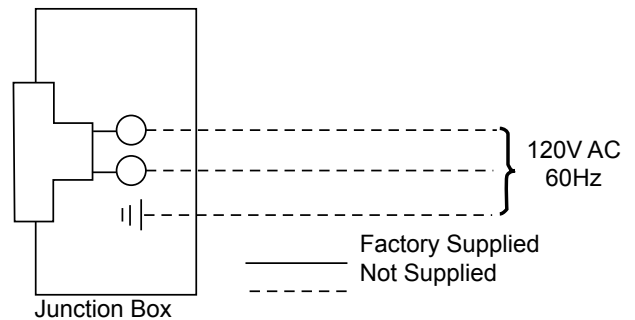

Figure 19. Junction Box Wiring Diagram
3. The junction box cover has a factory installed "romex" style strain relief connector. After connecting the wires, route the wire leads through this connector. Refer to the wiring diagram in Figure 19